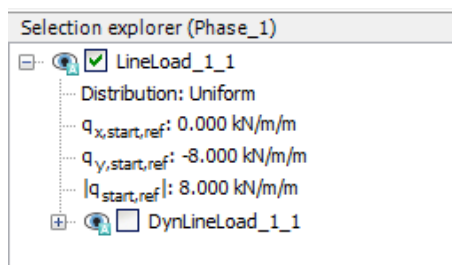

Figure 193: Specification of the static load component in the **Selection explorer**
3. Activate the static component of the distributed load. In the **Selection explorer** set  $q_{y,start,ref}$  value to -8 kN/m/m. Do not activate the dynamic component of the load as shown in Figure 193 (on page 218).